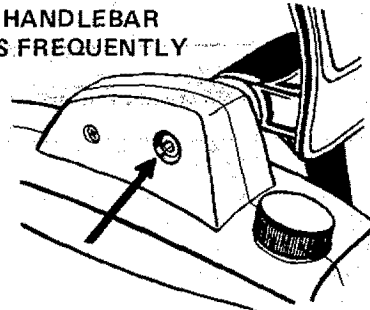

Figure 35
- Check and retighten screws holding front handle at least once for every five (5) hours of operation. Make sure the handguard is securely clamped between the front handle and housing after tightening screws. Figure 35.